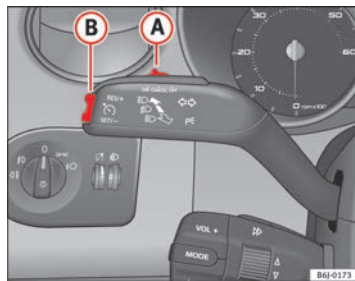

Fig. 113 Turn signal and main beam headlight lever: switch and rocker switch for the cruise control
- Press the upper part **RES+** of the rocker switch ⇒ fig. 113 **B** to increase the speed. The vehicle will continue to accelerate as long as you keep the rocker switch pressed. When you release the switch, the new speed is stored.
Cruise control is switched off if you reduce speed by depressing the brake pedal. Reactivate the control by pressing once on the upper part of the rocker switch **RES+** ⇒ page 148, fig. 113 **(B)**.